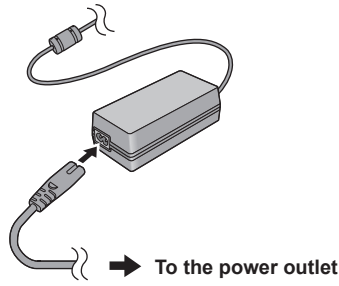

Fig. 2
**2** Connect the AC cable to the AC adaptor. (Fig. 2)
**3** Connect the power plug to the power outlet. (Fig. 2)